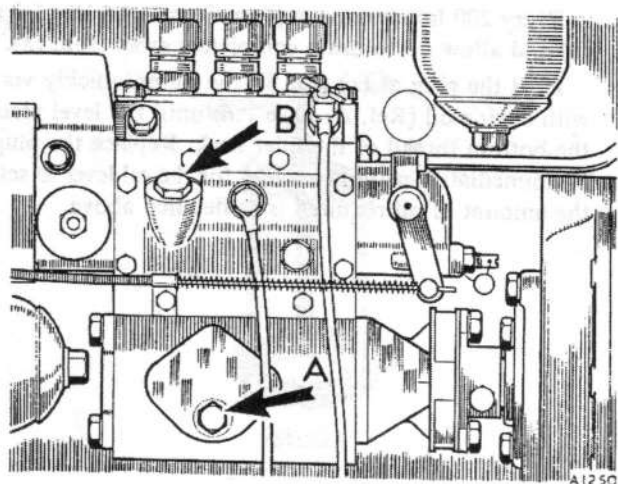

Fig. D.27
Before putting a new three-element fuel injection pump into service remove the plugs from apertures (A) and (B), illustrated in Fig. D.27, which shows the first stage modification injection pump. Pour engine oil (Ref. A, page P.6) via (B) until the oil emerges from (A). This procedure is to ensure that oil has reached the cam box, since the oil passage through the tappets is restricted and oil will flow through very slowly (if the plug is left in position at [A] oil may reach the level of [B] before sufficient oil has reached the cam box).